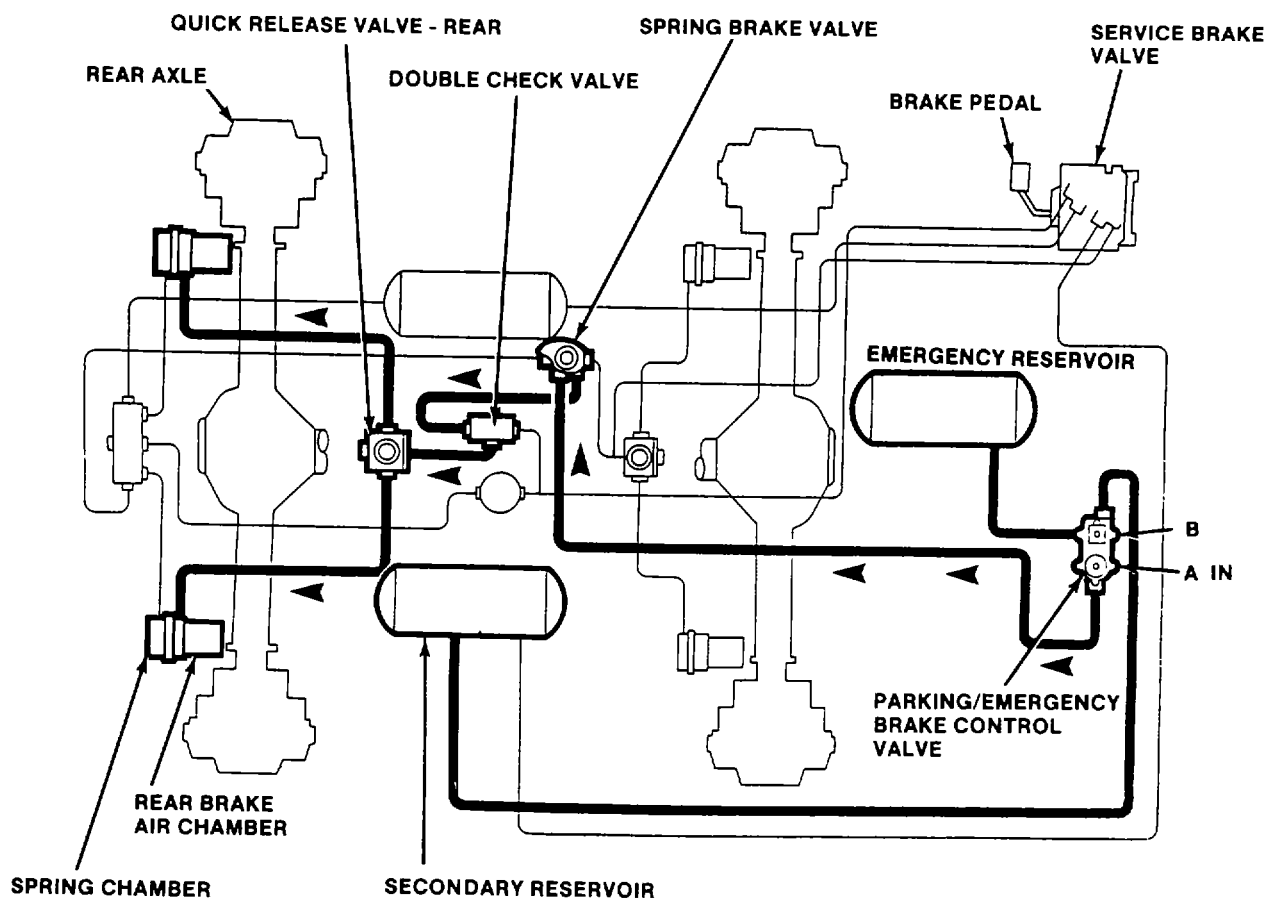

Figure 1-30. Parking Brake System
(1) To release the parking brakes, the control (A), (see fig. 1-30) is pushed in. Air from the secondary reservoir flows from the control valve via the spring brake valve, double check valve and quick release valve to the rear brake air chambers. To engage the brakes, the control (A) is pulled OUT to depressurize the parking brake air lines. When these lines lose pressure, the quick release valve opens and vents the brake air chambers to the atmosphere. As the air pressure is relieved, spring pressure from the spring chambers engages the brakes.
(2) If the secondary air supply is depleted, the brakes can be released by pressure from the emergency reservoir. By pushing and holding the control (B) IN, the secondary reservoir is isolated and the emergency reservoir is opened to pressurize the system.